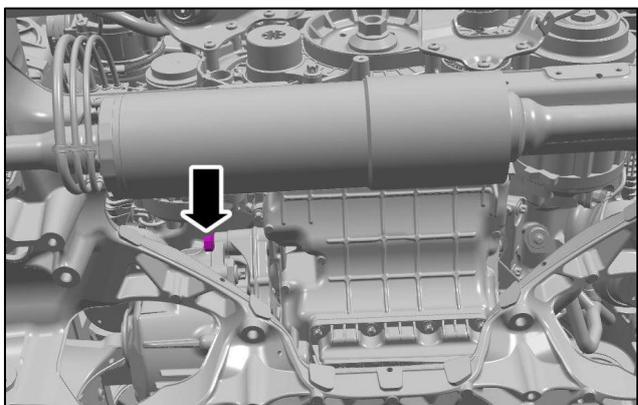

Figure 3
5. Torque the bolt that attaches the FDU assembly to 50 Nm plus 95 degrees (refer to Figure 3).